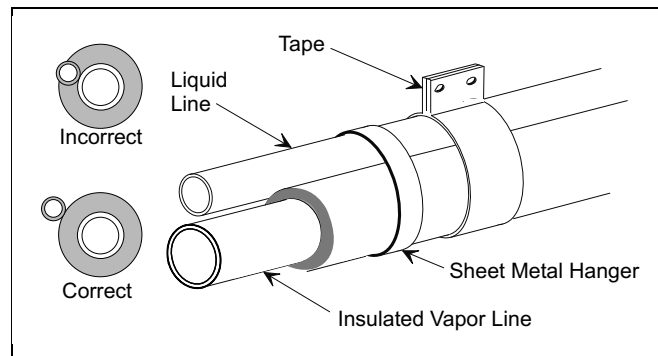

FIGURE 2 : INSULATION OF VAPOR LINE
Do not insulate liquid line and vapor line together. Liquid line should not be in contact with the vapor line. See Figure 2.
- d. Liquid lines should not be in bare contact with suction line. See Figure 2.